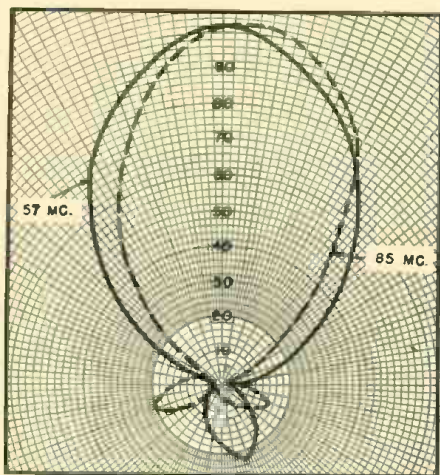

Fig. 4. Power gain patterns, at Channels 2 and 6, of a two-bay diamond array.
(45 degrees). The antennas to be described are; (A) winged dipole, (B) reversible beam antenna, (C) duo-band antenna, (D) in-line antenna, (E) conical antenna, (F) diamond conical antenna, and (G) Circle-X antenna. A typical radiation pattern is shown in Fig. 4.